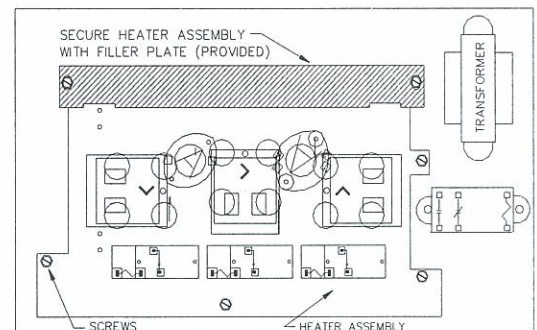

FIG. 1 - FILLER PLATE INSTALLATION (SIZE 024 - 036 CABINETS ONLY)
6. Installer must inspect the heating elements to verify that shipping and handling have not shorted elements to grounded metal parts. Carefully slide the heater into the unit (mounting position is important, check label for correct position). Secure heater into place with screws provided and on size 024 - 036 use **FILLER PLATE** additionally (see fig. 1).